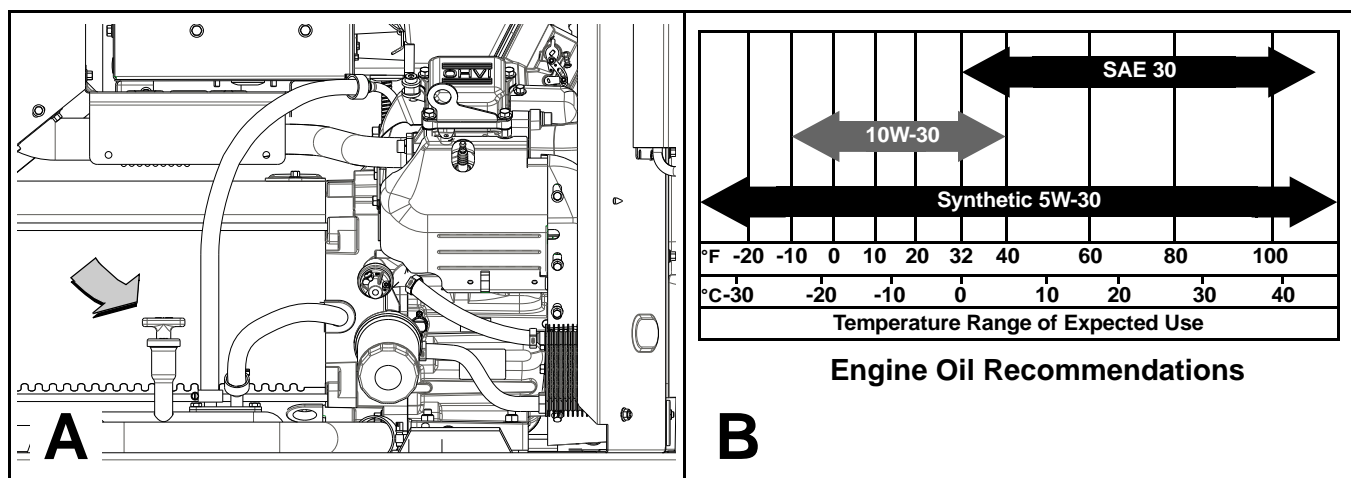

Figure 4-1. Check Engine Oil Level
1. Remove dipstick and wipe with a clean cloth. See A of Figure 4-1.
4. If necessary, slowly add the recommended type of oil into the dipstick tube until the level is at the FULL mark. **DO NOT OVERFILL.** See B of Figure 4-1.
All oil should meet minimum American Petroleum Institute (API) Service Class SJ, SL or better. Use no special additives. See B of Figure 4-1. Select the oil viscosity grade according to the expected operating temperature.